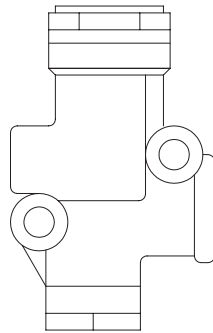

FIGURE 2-7
- **Mounting Bracket** – A mounting bracket designed to accompany air kits, see Figures 2-7 to 2-9.